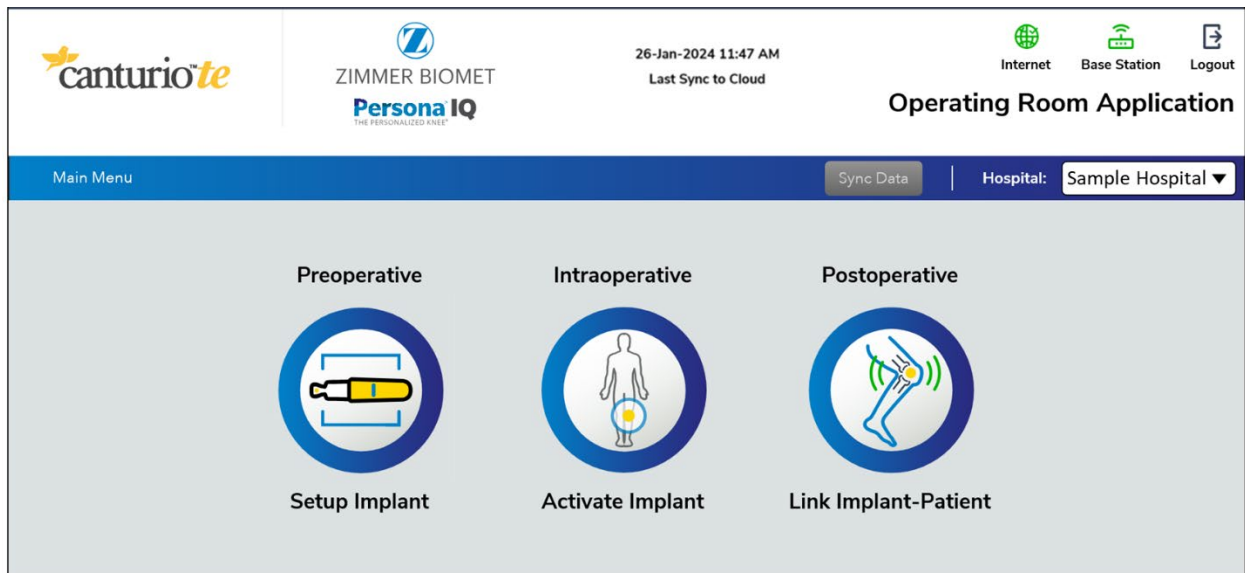

Figure 7: Main Menu
8. Enter your authorized Username and Password and click the “Login” button. This will take you to the Main Menu screen. . **Figure 7**.
9. On the Main Menu screen, under “Preoperative,” click on the “Setup Implant” icon (**Figure 7**).